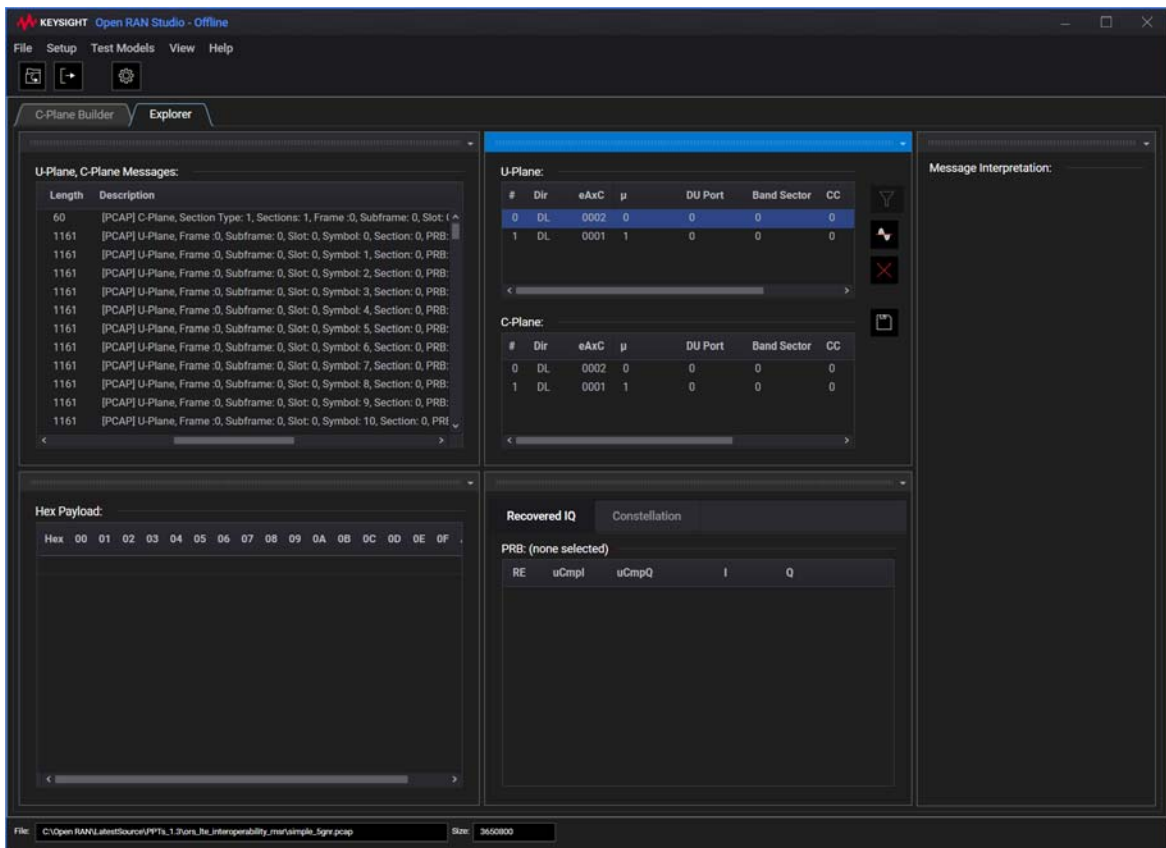

Figure 183 Filtering selected flow to perform IQ recovery
- 11 Select the flow corresponding to the LTE carrier in the U-Plane area, as shown in Figure 183.